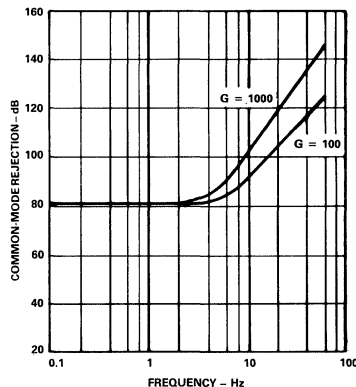

Figure 8. Common-Mode Rejection vs. Frequency
**Common-Mode Rejection:** CMR as a function of frequency is shown in Figure 8. Test conditions are a 3V p-p common-mode signal and 1kΩ source imbalance. The CMR improves with increasing gain. Note that the 4Hz filter enhances the CMR performance above the corner frequency by attenuating the normal-mode signal at 60dB/decade.